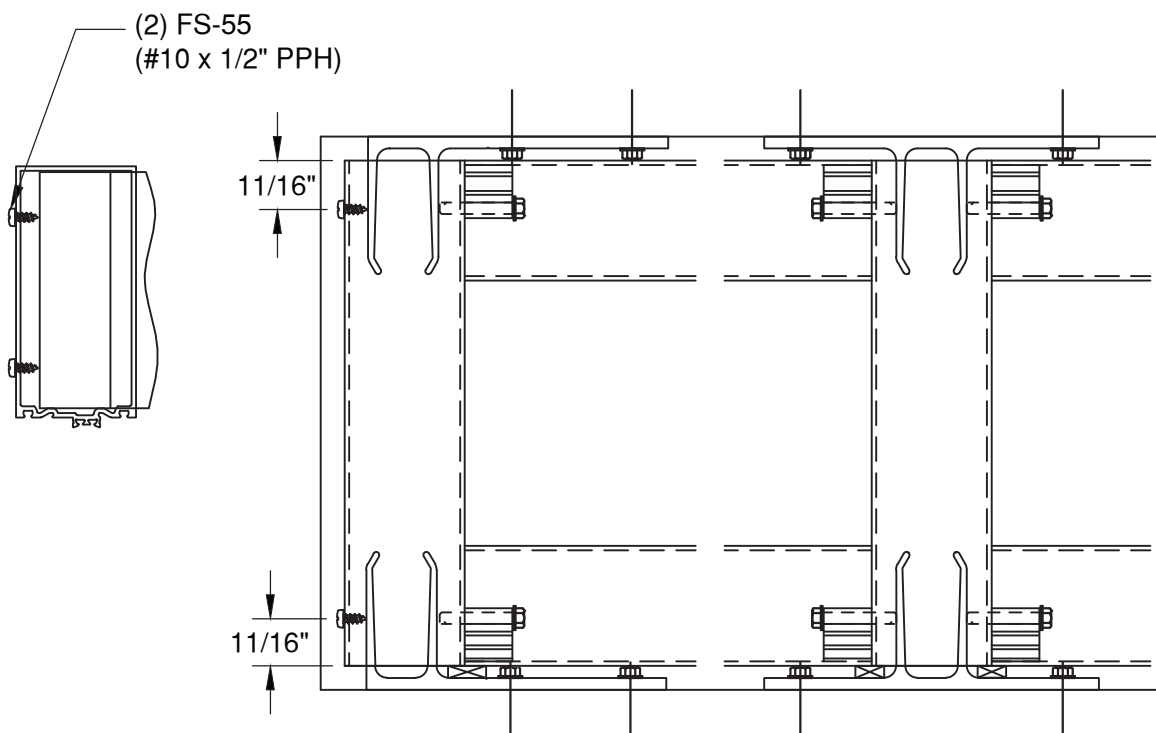

Figure 8
- 2.1.5 When using tee anchors, slide tee anchors into top and bottom of vertical mullions. The tee anchors are designed to clear the shear block fasteners. Prior to installation, when using jamb "F" anchor, install (2) FS-55 (#10 x 1/2" PPH) fasteners at each end of mullion to center F anchor in vertical. **SEE FIGURE 8**